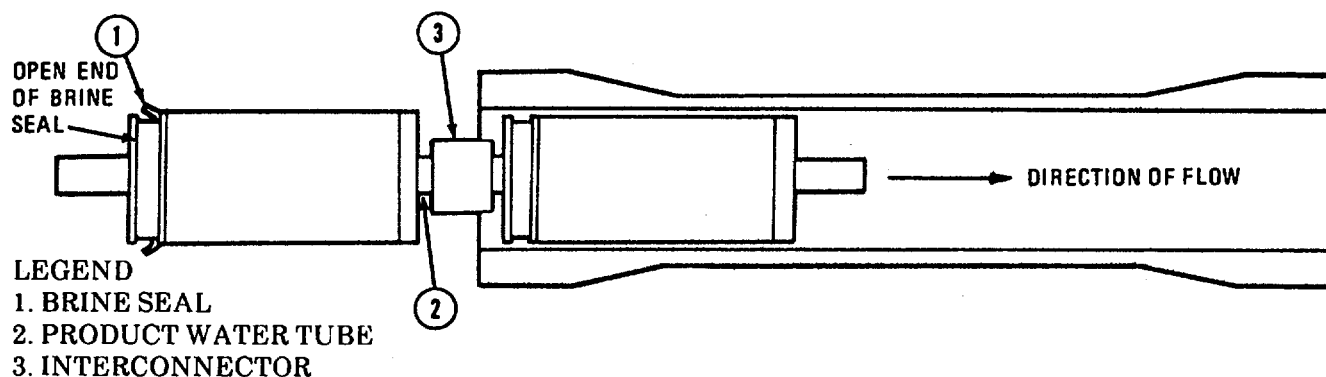

FIGURE 3-8. ELEMENT REPLACEMENT
(7) Remove second R.O. element from sealed plastic bag.
(8) Install brine seal (1) into groove of second R.O. element. Make sure that the open end of the brine seal is opposite the direction of flow.
(9) Refer now to figure 3-8. Insert product water tube (2) of the second R.O. element into interconnector (3).